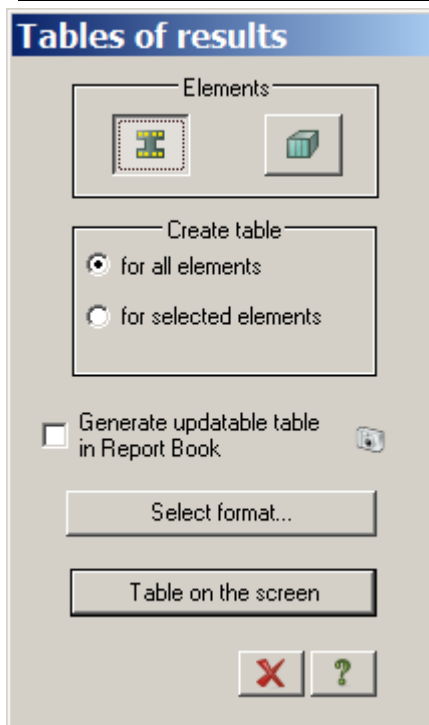

Figure 4.35 **Tables of analysis results** dialog box
- ⇒ In the **Tables of analysis results** dialog box (see Fig.4.35), click the **Plates** option in the **Elements** area. Option **For all elements** in the **Create table** area is selected by default.